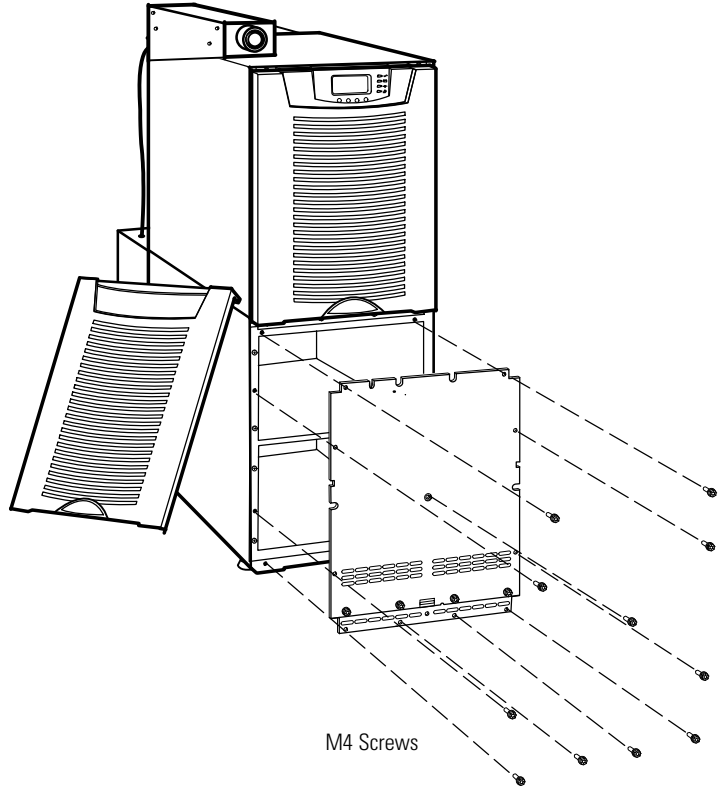

Figure 18. Removing the Battery Cover Panel
4. The battery cover panel is made up of two parts joined together with four screws. Remove both parts of the panel at the same time by removing the 10 M4 screws on the edges of the panel and the M4 screw in the middle of the panel (see Figure 18).